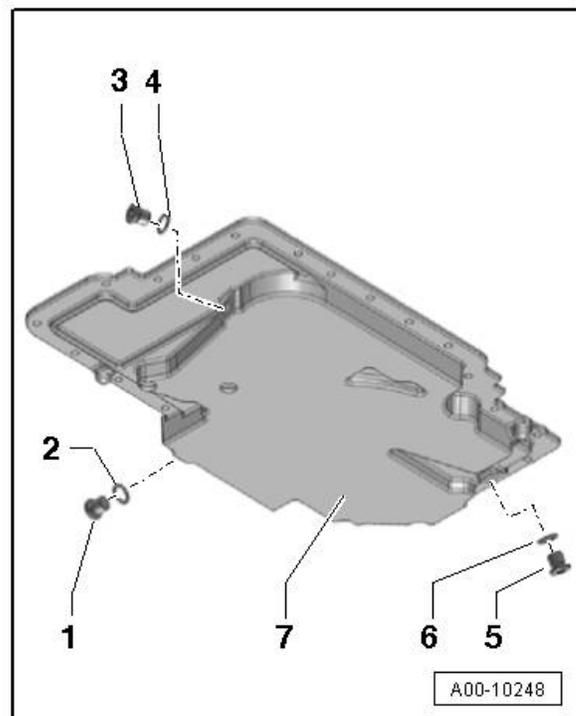

Figure 2. The oil drain plugs (1, 3, and 5).
- b. Open the oil drain plug (Figure 2, label 1) and drain for **10** minutes. Reinstall drain plug with new gasket and torque to specification.
- c. Open the oil drain plug (Figure 2, label 3) and drain for **5** minutes. Reinstall drain plug with new gasket and torque to specification.
- d. Open the oil drain plug (Figure 2, label 5) and drain for **5** minutes. Reinstall drain plug with new gasket and torque to specification.